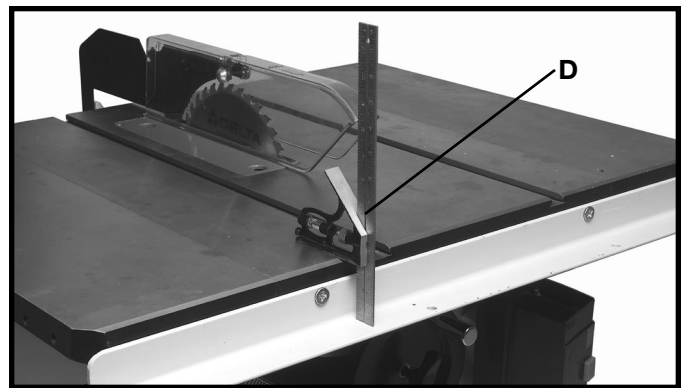

Fig. 4
4. Use a square (D) Fig. 4 to make sure the front guide rail is parallel with the table and tighten the two screws securely, that hold the guide rail to the table.
4. Use a square (D) Fig. 4 to make sure the front guide rail is parallel with the table and tighten the hardware that holds the guide rail to the table.